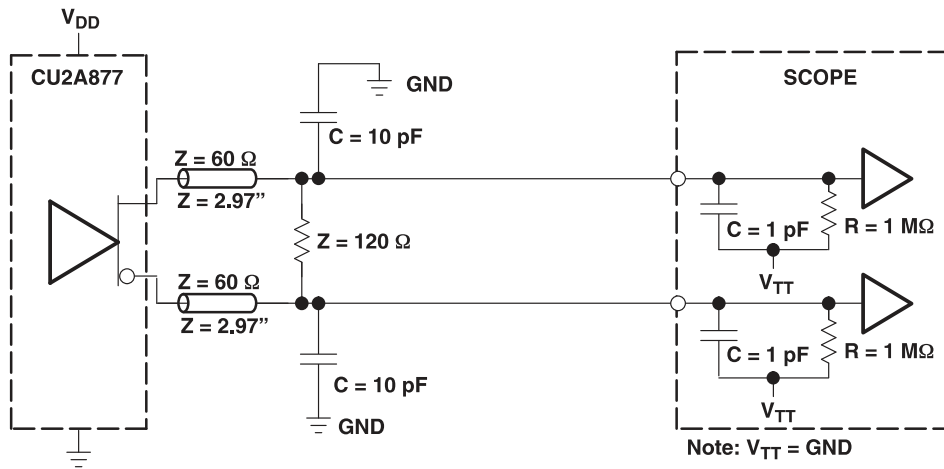
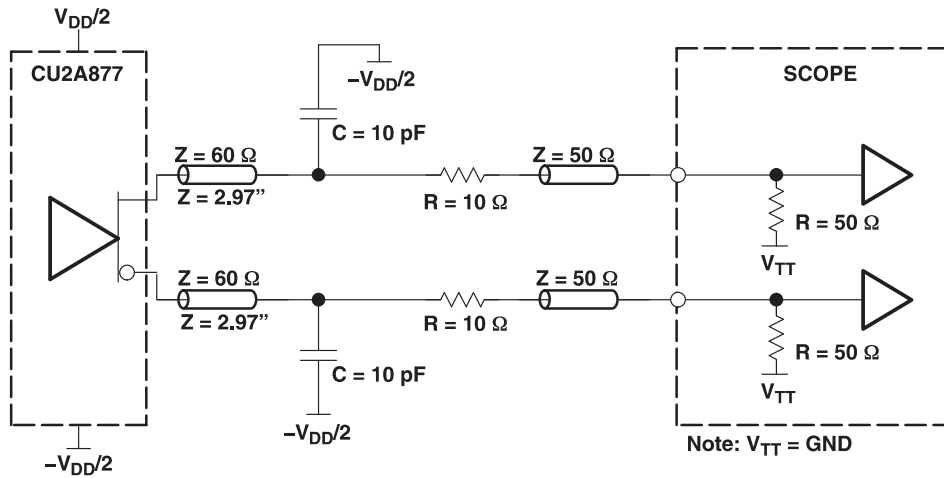

Figure 2. Output Load Test Circuit 1 (Using High-Impedance Probe)
Figure 3. Output Load Test Circuit 2 (Using SMA Coaxial Cable)
- (1) There are two different terminations that are used with the following tests. The load/board in Figure 2 is used to measure the input and output differential-pair cross voltage only. The load/board in Figure 3 is used to measure all other tests. For consistency, equal length cables must be used.
- (2) This parameter is assured by design and characterization.
- (3) Phase static offset time does not include jitter.
- (4) For full frequency range of 160MHz to 410MHz.
- (5) Period jitter, half-period jitter specifications are separate specifications that must be met independently of each other.
- (6) In the frequency range of 271 MHz to 410 MHz, the minimum and maximum values of  $t_{jit(per)}$  and  $t_{(\phi)dyn}$  and the maximum value for  $t_{sk(o)}$  must not exceed the corresponding minimum and maximum values of the 160 MHz to 270 MHz range. In addition, the sum of the specified values for  $|t_{jit(per)}|$ ,  $|t_{(\phi)dyn}|$ , and  $t_{sk(o)}$  must meet the requirements for the  $\Sigma t_{(su)}$  and the sum of the specified values for  $|t_{(\phi)dyn}|$  and  $t_{sk(o)}$  must meet the requirements for the  $\Sigma t_{(h)}$ .